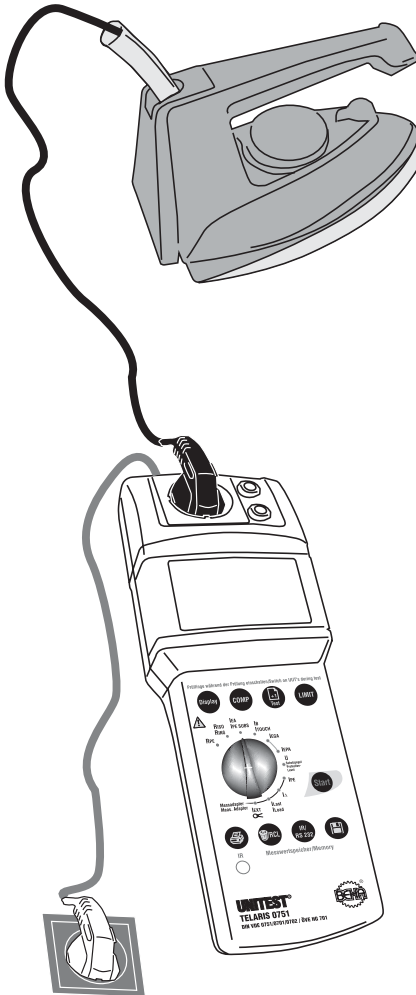
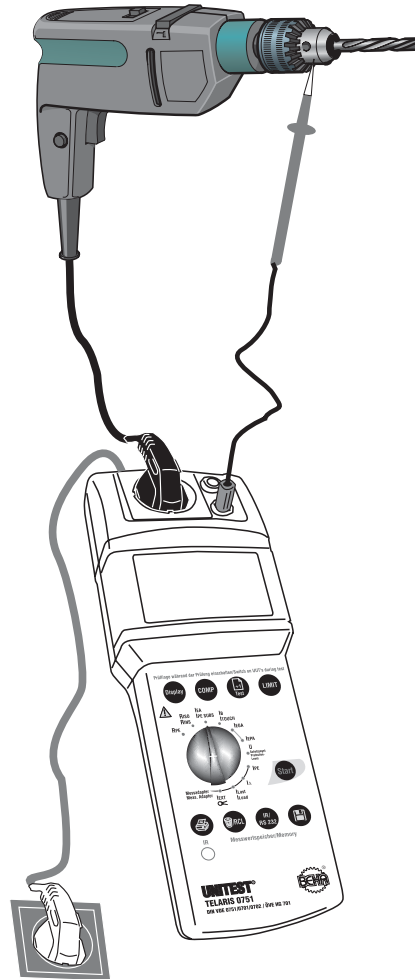

Figure 6.8: Measuring the substitute leakage current for appliances of protection class I
Figure 6.9: Measuring the substitute leakage current for appliances of protection class II
- ▶ Connect the UNITEST TELARIS 0751 via the mains plug (1) to a functional and correct wired and grounded mains socket.
- ▶ Turn the ‘Measurement function’ selection switch (15) to position ‘IPE SUBS’.
- ▶ Plug the UUT mains plug into the test socket (3), please refer to Figure 6.8.
- ▶ Press the key “Start” (9). The unit symbol which is blinking on the display is an indication for the active measurement procedure.
- ▶ Read the measurement value from the LC display (6). If the limit value display is active, the symbol ‘LIMIT’ (21) indicates that the limit value has been exceeded.
-  For appliances of protection class II or III, additionally connect the ‘PE’ socket (5) to all touchable, conductive parts of the UUT; please refer to Figure 6.9. This is also applicable for conductive parts of class I appliances which are NOT connected to PE.
-  The measurement results can be saved by pressing the key “Store” (10). For references regarding the saving of measurement values, please refer to section 7.1 and 7.2.